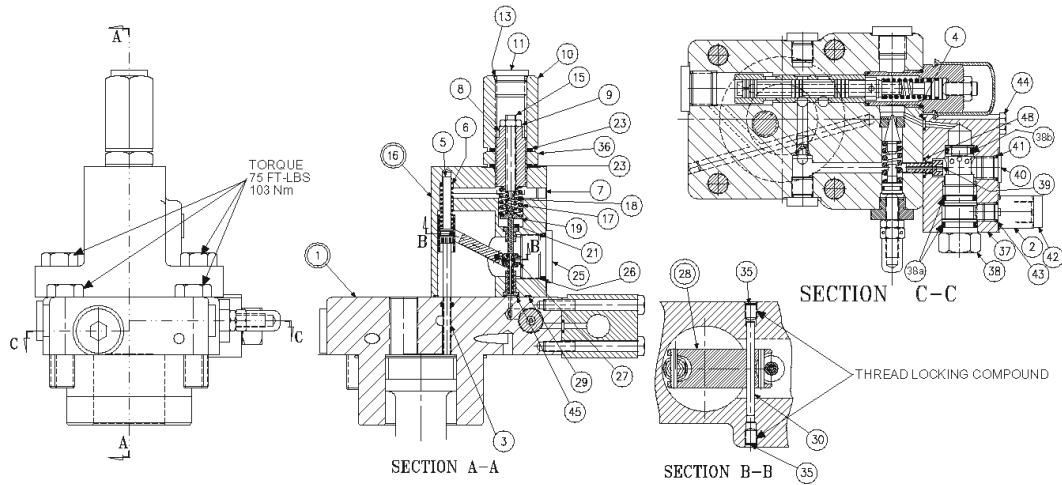

FIGURE 13
1. Install Avseal plugs (9) and .047", 1,19 mm. orifice (19) in body.
2. Press seat (10) into bore squarely against shoulder in bore.
3. Install plug (12) and spool (18) into bore as shown. Install spring (11) over end of spool. Install O-ring (6) on seal piston(16). Lubricate and install into plug (15). Install plug (15) into cap. Install screw (3), nut (4) and cover (17).
4. Install O-ring (6) on seal piston (5).
5. Lubricate O-ring and install cone (8), spring (7) and seal piston into bore in cap (1), being careful that cone enters seat (10). Install remaining parts in body (1).
6. Install O-rings (29-a) and (29-b) on valve (29). See Figure 13, page 40. Observe that backup ring on inside groove is toward the outside, the one on the middle groove is toward the inside, and the one on the outside groove is toward the outside. Lubricate and install valve (29) in block (28), being careful to avoid damaging the O-rings. Torque to 50 lb.·ft., 67,8 Nm.
7. For the P110 only, install O-ring (32) on adapter (35). Install adapter in block (28). Install plug (31) in adapter (35). For the P07 only, install O-ring (32) on plug (31). Install plug (31) in block (28).
8. Note proper location for cap on pump (page 24). Install O-rings on interface between cap and pump control pad. Install O-rings (26) in block (28).
PARTS LIST FOR FIGURE 13
1. See Figure 13. Remove 2 screws holding torque limiter body (16) to cap assembly (1).
2. Remove all parts from torque limiter body (16) except pin (30) and arm assembly (28). It is not necessary to remove these parts unless broken or worn. Examine parts for wear or damage.
3. Remove screw (3). Examine head for excessive wear, and body for smooth sealing surface with O-ring.
5. Remove modulating valve (38) from body (37). Remove body (37) from cap assembly (1). Note plug (40) must be removed to remove special screw (39). Remove cap assembly (1).
3. Install plug (12) and spool (18) into bore as shown. Install spring (11) over end of spool. Install O-ring (6) on seal piston (16). Lubricate and install into plug (15). Install plug (15) into cap. Install screw (3), nut (4) and cover (17).
8. See Figure 13. Install block (37) on cap (1) with O-rings (4) and (48). Use special screw (39) through the block.